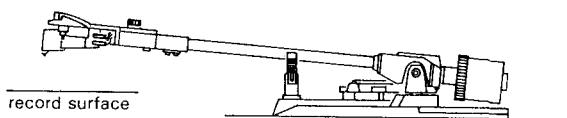

Fig. 19
3. Slide the counterweight to the middle of the weight shaft and turn until the tonearm is balanced with the stylus nearly touching the record surface. (Fig. 19, 20)